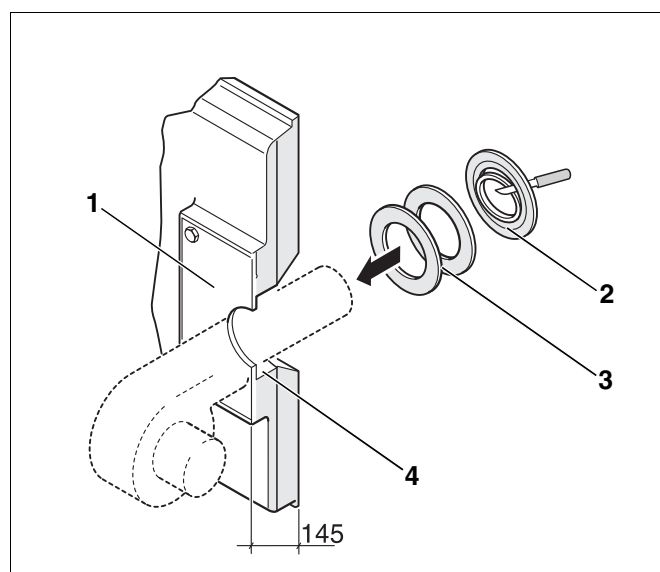

Fig. 66 Installing the burner (dimensions in mm)
- ▶ Drill or cut the burner plate (Fig. 66, [1]) to match the required blast tube diameter (max. dia. 270 mm).
- ▶ Cut out insulating rings to match the blast tube diameter (Fig. 66, [2]).
- ▶ Fill the remaining gap between the burner door lagging and the blast tube (Fig. 66, [4]) using the appropriate insulating rings (Fig. 66, [3]).